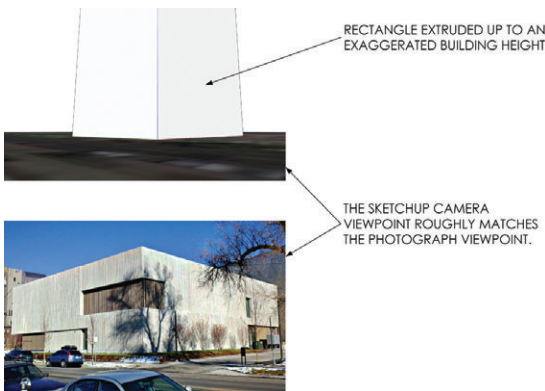

Figure 16.8 The photograph and the SketchUp model shown in similar views
5. Use the Push/Pull tool to extrude the rectangle up to an exaggerated height as shown in Figure 16.8.